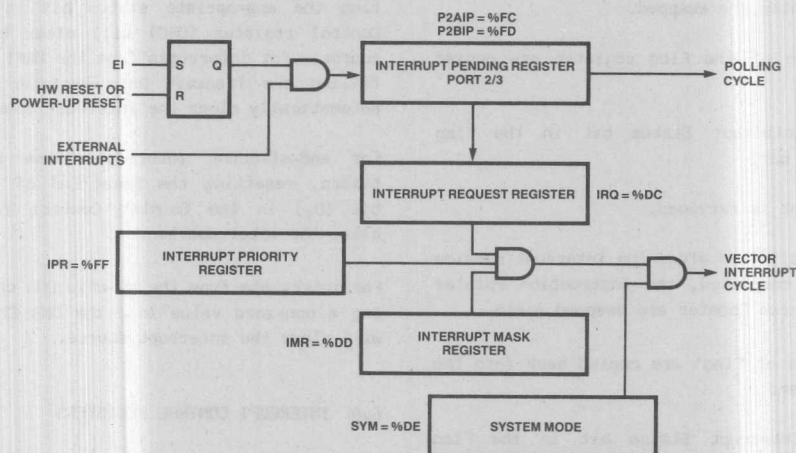

Figure 6-4. Interrupt Cycle Process
When the interrupt handling routine is finished, it should issue an Interrupt Return (IRET) instruction. This instruction restores the Program Counter and status flags from the stack and sets the Global Interrupt Enable bit. If nesting was used, the interrupt handling routine should first execute a Disable Interrupt (DI) instruction and restore the saved mask before executing the IRET instruction. Figure 6-4 illustrates the interrupt cycle process that occurs when an interrupt request occurs.